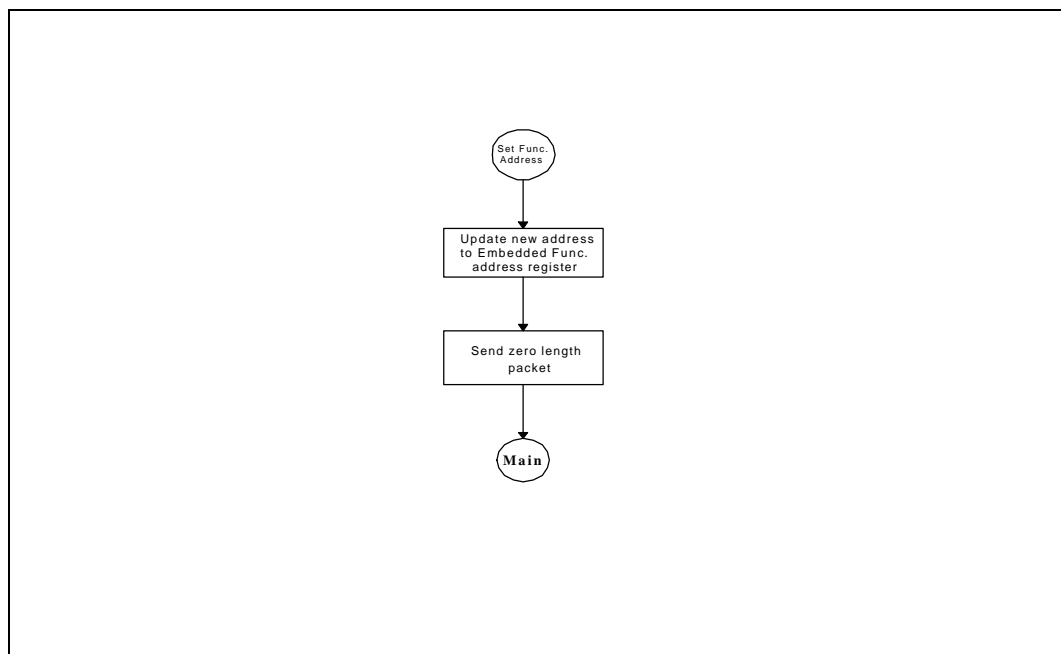

Figure 28: Embedded Function Set Address Standard Command
- Set Function Address (Figure 28)